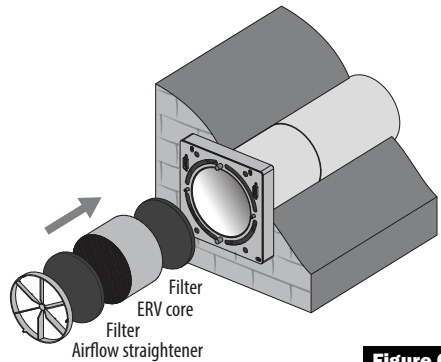

Figure 6
6. Consecutively install the filter, ERV core, second filter, and airflow straightener as shown in Figure 6.